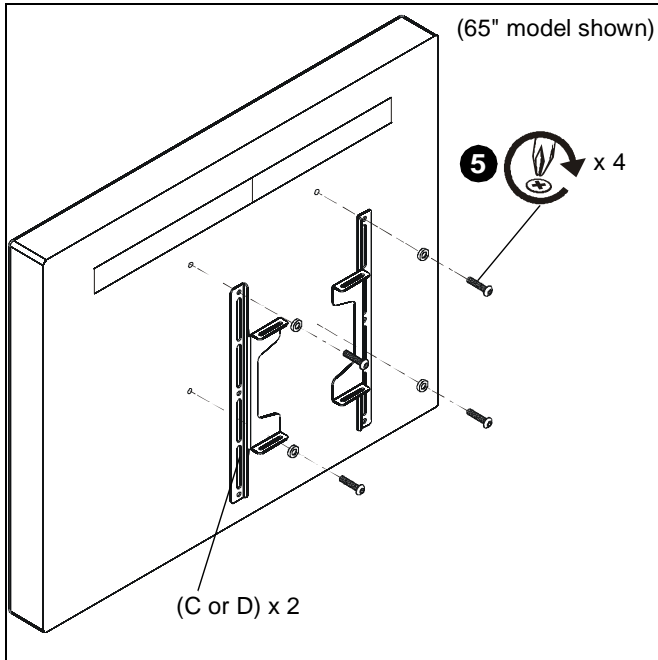

Figure 6
- Use four removed screws and washers to secure interface brackets (C or D) to back of display. (See Figure 6)